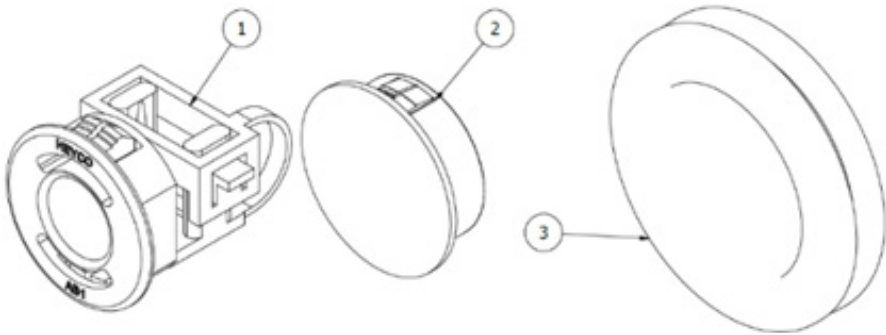

Figure 10 - Flextherm Eco G2 E heat battery grommets & strain reliefs
- Remove the respective rubber grommets (Item 3 - Figure 10) in the outer housing and cut the centres (with a cross) with a knife. Re-insert the cut grommets. Do not cut the grommets in place, as this may damage the VIP.
- (Refer to Figure 10) Move the cable strain relief fittings (1) to the side you wish to make the entries / exits. Cover all other holes in the enclosure with the supplied blanking grommets (2).